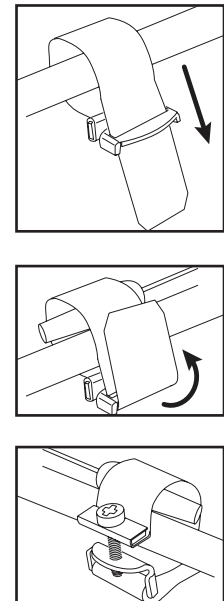

Figure 3
8. After completing the brazing operation, allow the lines to cool. Attach the bulb to the gas line as shown in figure 3.